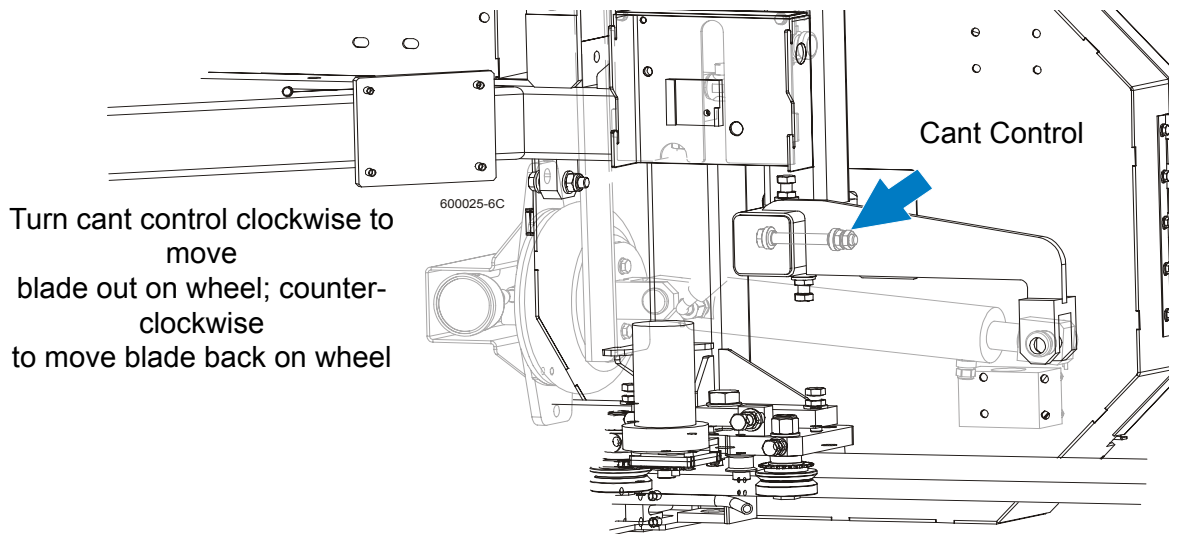

FIG. 5-20
**See Figure 5-20.** Use the cant control adjustment to adjust the idle-side blade wheel. If the blade is too far forward on the wheel, turn the cant control counterclockwise. If it is too far back on the wheel, turn the cant control clockwise.